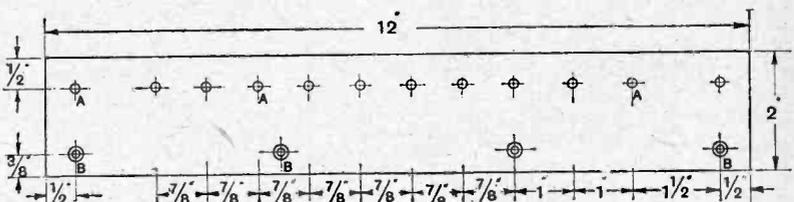
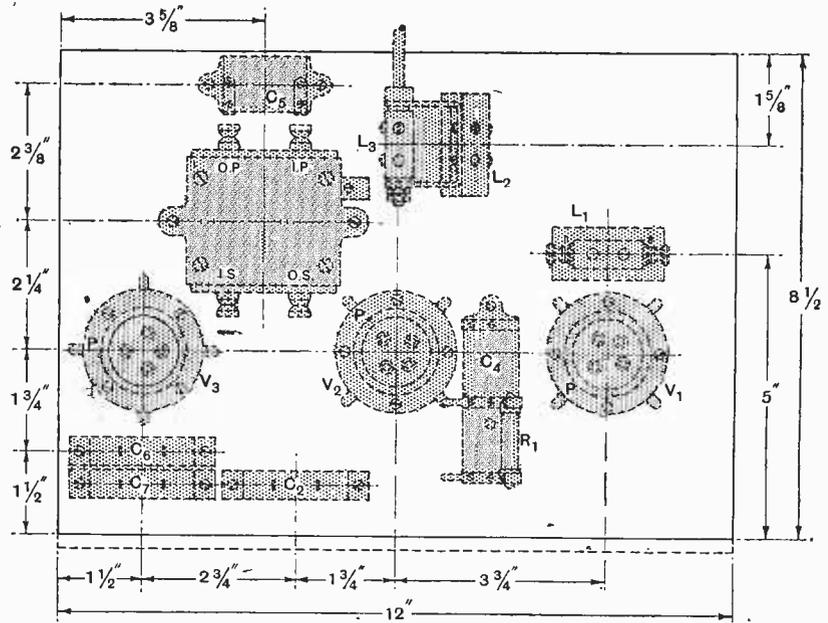

Fig. 3.—The terminal strip A = 4 B.A. clearance holes; B =  $\frac{1}{8}$  in. dia.
Fig. 4.—Arrangements of parts on the base.
Mounted on the baseboard, Fig. 4, are the three valve holders, a single coil holder for  $L_1$ , a two-coil holder for  $L_2$  and  $L_3$ , the grid condenser and leak  $C_4 R_1$ , the intervalve transformer with its bye-pass condenser  $C_5$ , the three large condensers  $C_2$ ,  $C_6$ , and  $C_7$ , and the terminal strip. The terminal strip measures 12in.  $\times$  2in.  $\times$   $\frac{1}{4}$ in., and carries 12 No. 4 B.A. terminals, as indicated in Fig. 3. It will be observed that the two-coil holder is mounted at an angle with the baseboard; this is to allow a larger movement of the reaction coil, and is effected in this receiver by bending the brass feet used as supports to a suitable angle. The aerial coil is fixed at right angles to the anode and reaction coils to prevent magnetic coupling.
Fig. 3.—Amplification-frequency curves for experimental transformer of varying turns ratio. The turns ratio is not the only criterion of the amplification obtainable.
Some tests on a transformer having the following constants are illustrated in Fig. 3. The core consisted of stampings of dubious quality, comparatively few in number, and butting badly at the joints. This, together with the disposition of the windings, probably introduced
considerable magnetic leakage between primary and secondary. The winding was in four layers, the inner three having 2,000 turns each, and the outer one 8,000. In curve (B) the second and third layers formed the primary, and the first and fourth the secondary. Thus the turns ratio was 2.5/1. The primary inductance was 10 henries. In curve (A), Fig. 3, the first and third layers formed the primary, and the second and fourth the secondary. The turns ratio, therefore, remained unchanged, but the capacity and leakage were altered. This was sufficient to affect the maximum amplification by more than 10 per cent. In curve (C) the third layer was used as primary, with an inductance of only 2.7 henries, while the first, second, and fourth formed the secondary. It will be seen that nothing approaching a 6/1 step-up of voltage was obtained even at the maximum.